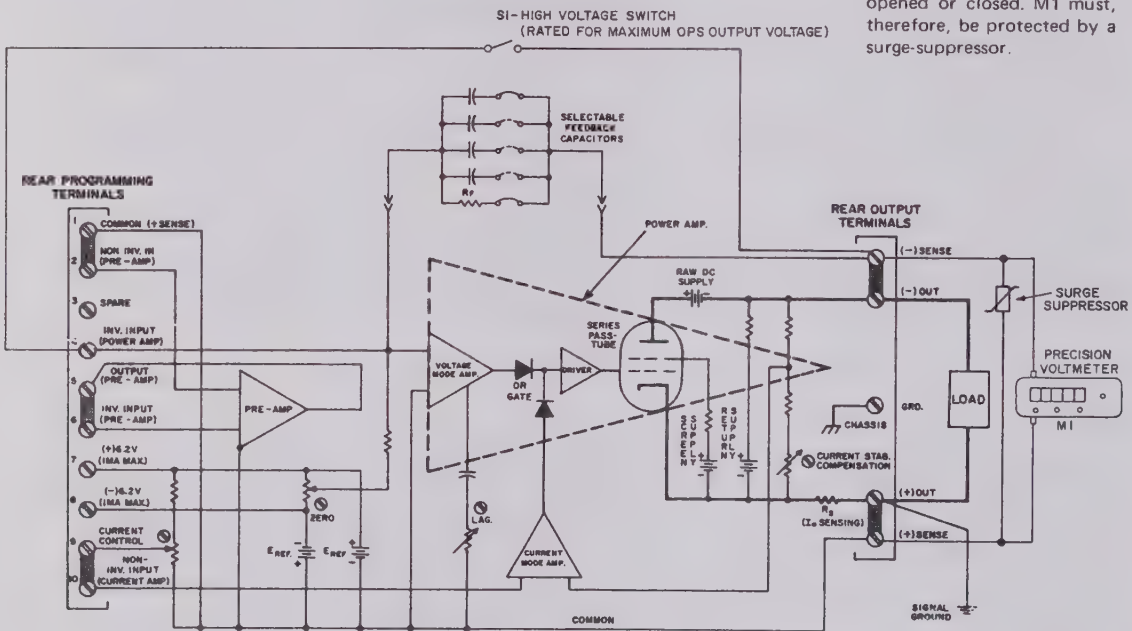

FIG. 5-3 OFFSET MEASUREMENTS (ΔE_{iO} , ΔI_{iO} FOR A-C SOURCE VARIATIONS) VOLTAGE CONTROL CHANNEL.
- 5-16 OFFSET MEASUREMENTS. The specified variations of the offset voltage and the offset current (ΔE_{iO} , ΔI_{iO}), can be verified (for a-c source changes) using the circuit shown in FIG. 5-3. These measurements provide a reliable check of the **d-c** performance of the OPS.
5-17 PROCEDURE (Refer to FIG. 5-3)